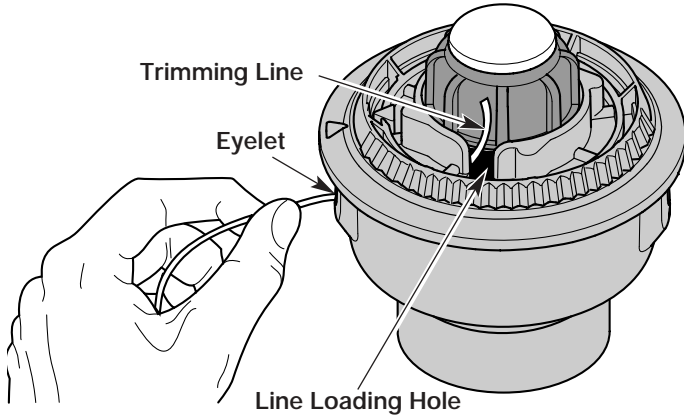

Fig. 19
3. Pull old line out of the line loading and line locking holes (Fig. 19 and 20).
4. Insert a piece of trimming line straight into one of the two eyelets in the outer spool. Push it up through the line loading hole in the inner reel (Fig. 19). Do not bend the line when inserting it into the eyelet.